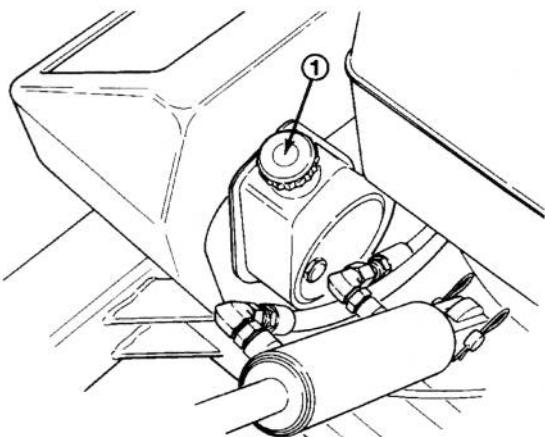

Figure 2
1. Remove the cap from the fuel tank (Fig. 2) and fill the 1.5 gallon tank to within 1 inch from the top with unleaded gasoline. Install the fuel tank cap tightly.
2. Remove the dipstick cap (Fig. 2) from the filler neck and wipe it with a clean rag. Insert the dipstick cap into the filler neck; then remove it and check the level of fluid. If the level is not within 1.25 cm (1/2 inch) from the full mark on the dipstick, add SAE 10W-30 engine oil to raise the level to full mark. Do not overfill.